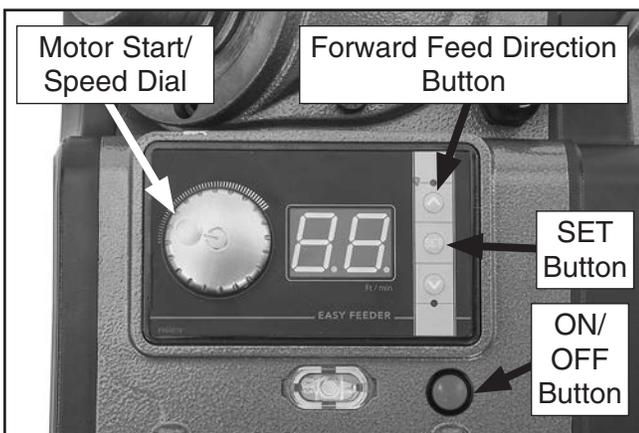

Figure 20. Location of buttons on control panel.
5. Press ON/OFF button, press SET button (see **Figure 20**), and use motor start/speed dial to select 10 FPM on readout. Number will flash for 10 seconds, then glow steadily.
6. Press forward feed direction button  (see **Figure 20**), and press and hold motor start/speed dial until you hear a beeping sound and outside edge of panel glows red.